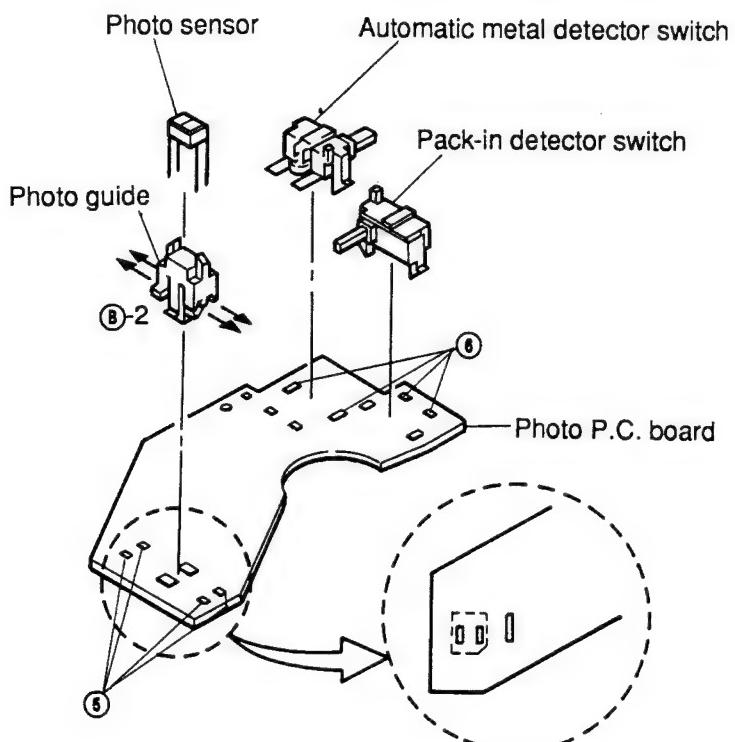

Figure 7
- (1) Remove four solders ④ as shown in Figure 7.
- (2) Remove the photo guide together with the photo sensor from the photo PC board as shown in Figure 7.
- (3) Insert the new photo sensor into the photo guide, and bend the legs of the photo sensor in the direction marked ⑧-2 as shown in Figure 7.
- (4) Insert the photo guide into the PC board and solder the legs so that the photo sensor is set as indicated by [] in Figure 7.
- (1) Remove 2 solders ⑥ with which the the switch is fixed as shown in Figure 7.